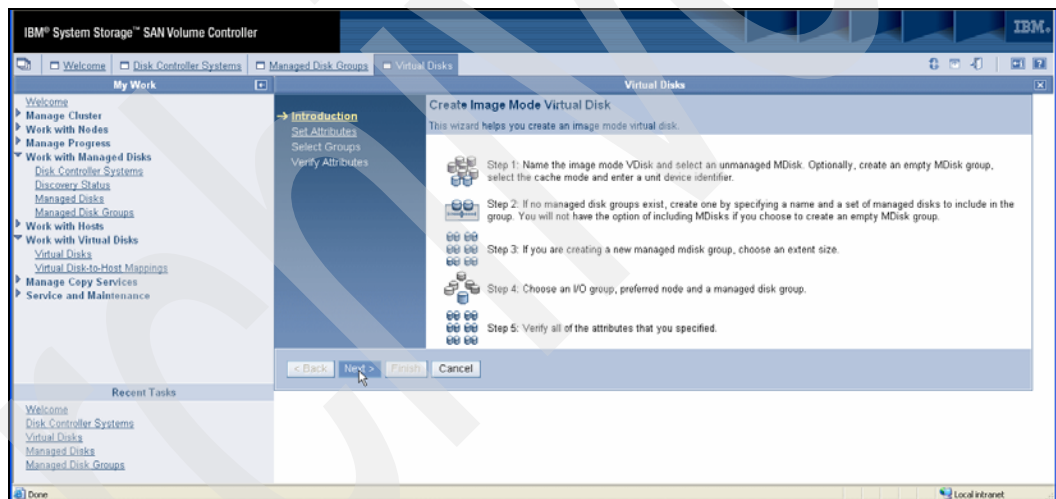

Figure 7-12 Create Image Mode Virtual Disk introduction
4. You are presented with a wizard that will take you through the whole process. Figure 7-12 shows the overview of the steps.